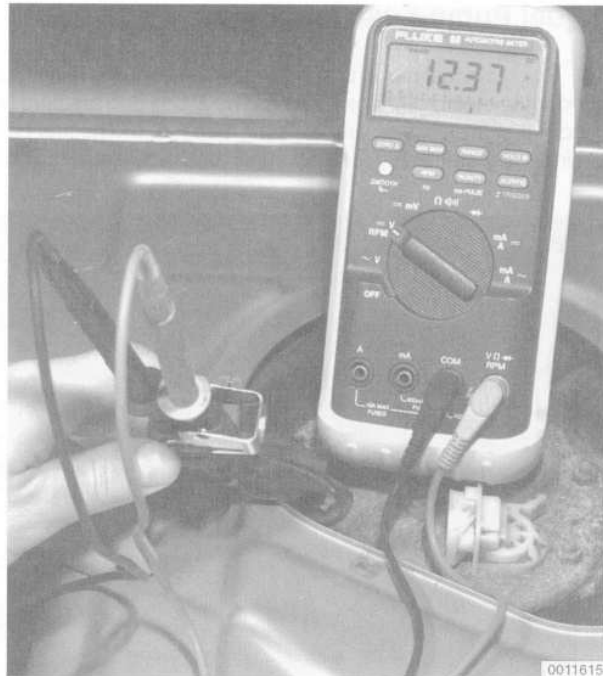

Fig. 9. Voltage supply to fuel pump being checked at harness connector terminals 4 (–) and 5 (+).
- If the fuel pump does not run, disconnect the harness connector from the pump. With the jumper wire connected as described in step 2 above, check for positive (+) battery voltage at terminal 5 and ground (–) at terminal 4. See Fig. 9.